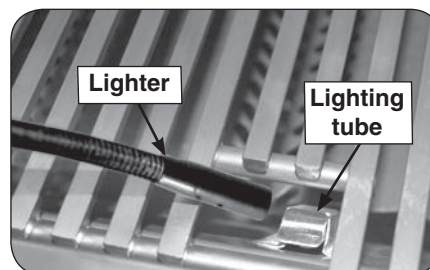

Fig. 27-2 - Manual lighting
**CAUTION:** Always wait five (5) minutes for gas to clear after any unsuccessful lighting attempt.
2. Insert either a burning long-barrel butane lighter or a burning long-stem match through the cooking grid opening to the top of the lighting tube (Fig. 27-2). For backburners, hold the flame against the surface of the backburner.
4. If the burner does not light within five (5) seconds of turning the control knob, **immediately depress the knob and turn the valve to OFF**. **WAIT FIVE (5) MINUTES** before repeating steps 2 through 4 of the MANUAL LIGHTING instructions.